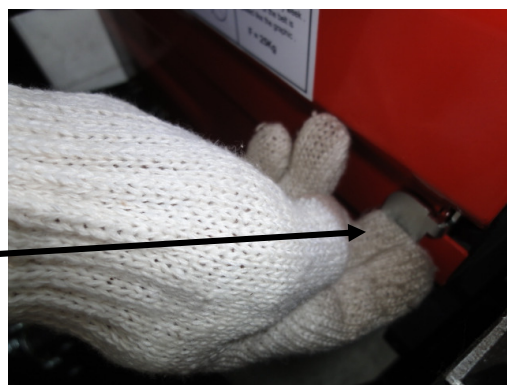

Figure 3-10.1a
4. Open the blade protect guard -red cover(Fig. 3-10.1a)
11. Close the blade protect guard -red cover(Fig. 3-10.1a)